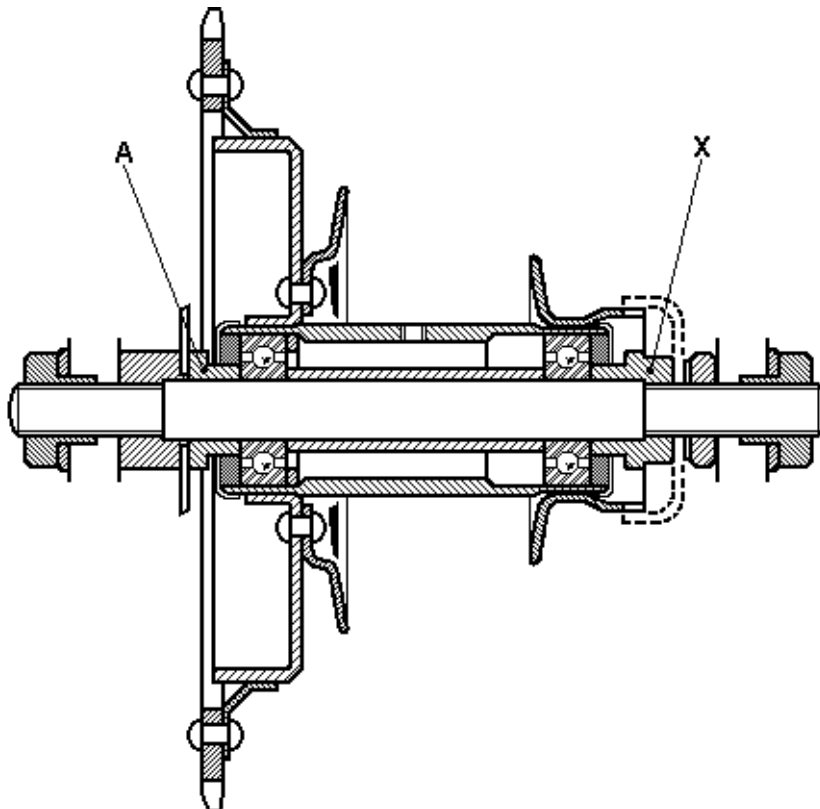

Fig. D23b.
**Note:**—On later spring frame models (1953 onwards) the distance collar is omitted; correct positioning of the speedometer gearbox being allowed for by the shape of the spindle nut (X), Fig. D23b.
The spindle nut (A) may now be replaced and thoroughly tightened, except on the later spring frame rear hub where it is necessary to replace the distance collar (A) Fig. D23b, and the brake cover plate complete with shoes, before finally tightening down with the brake cover plate nut. In each case the tightening of the nut will lock together the spindle, the inner rings of the journals, and the sleeve (F). This assembly should rotate freely in the ball races if the journals have been pressed in squarely. On the outer wheels, the brake cover plate and its nut should now be replaced, and the nut securely tightened. It should be noted that in each case the brake cover plate nut has a spigot which must be correctly located in the centre hole of the brake plate before the nut is tightened. The locknut (L) should now be replaced and tightened against the spindle nut (A) — front hub and rigid frame rear hub only.